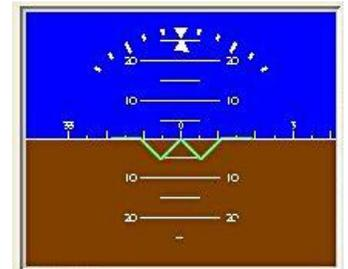

Figure 8. Artificial Horizon Section
4.8 **Artificial Horizon** - The artificial horizon provides a visual display of the *Yaw*, *Pitch*, and *Roll* as sensed and calculated by the unit (Figure 8).